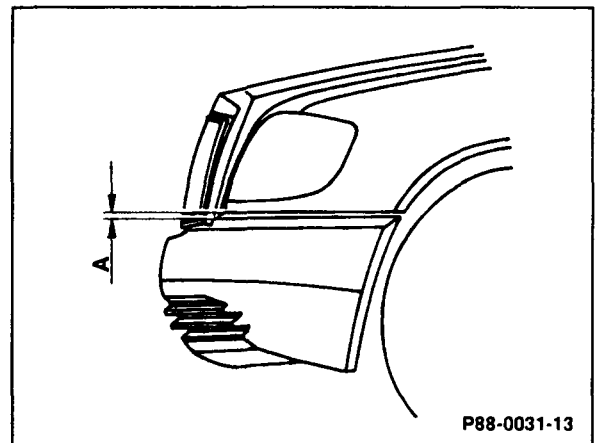

Figure 5
12. Inspect alignment of assembly and adjust if necessary (A = 5 mm, Figure 5).